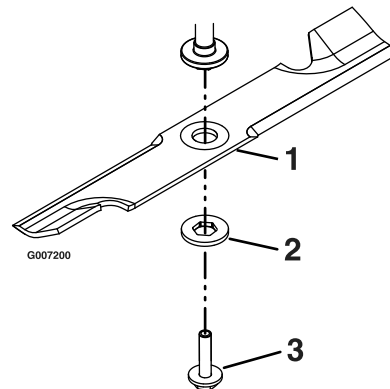

Figure 35
(Figure 35). Refer to **Removing the Blades and Installing the Blades**.
Hold the blade end using a rag or thickly-padded glove (or place a wrench on the top sheave nut). Remove the blade bolt and washer assembly, washer, and blade from the spindle shaft (Figure 35).
1. Install the blade onto the spindle shaft (Figure 35).